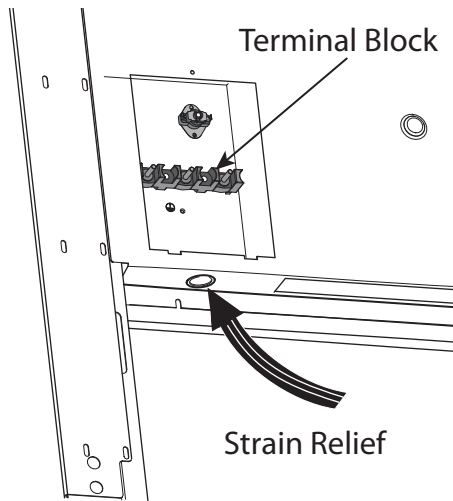

Figure 16: Strain Relief Location
Locate the terminal block on the rear of the unit and remove cover (refer to *Figure 16*). The conduit must be installed to the terminal block using an approved conduit connector. The free end of the conduit must be connected to a terminal block provided in the electrical supply zone, as shown in *Figure 4 on page 8*.
Mount a strain relief (not provided) into the 1" (25.4 mm) diameter hole located below the terminal block (see *Figure 16*). Wiring for the unit is to be brought into the terminal block through the conduit and through the strain relief. The ends of the wiring must have $\frac{1}{4}$ " (6 mm) faston closed-loop lugs attached, preferably soldered in place. Make the connections to the terminal block provided.
1. Locate the terminal block on the rear of the unit and remove cover (see *Figure 16*).